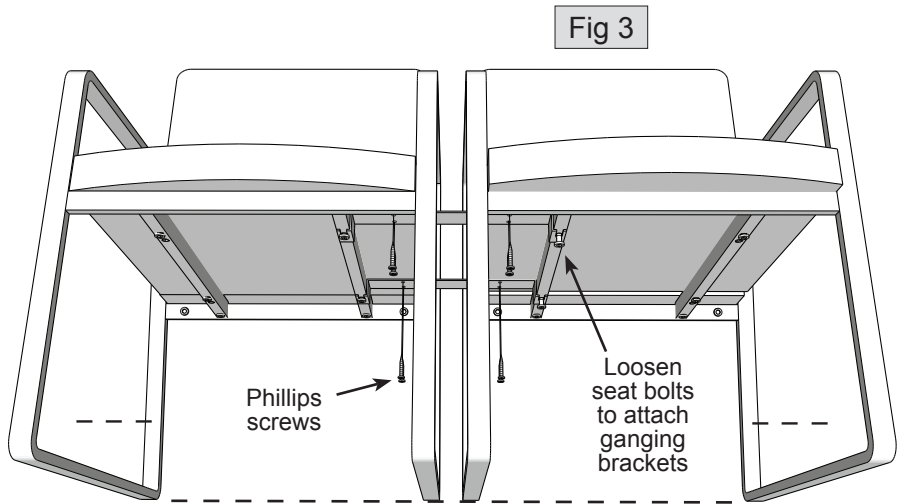

Fig 3
6. Pull the chairs together and attach the ganging brackets to the second chair, as shown in figure 3. Retighten these seat bolts securely.